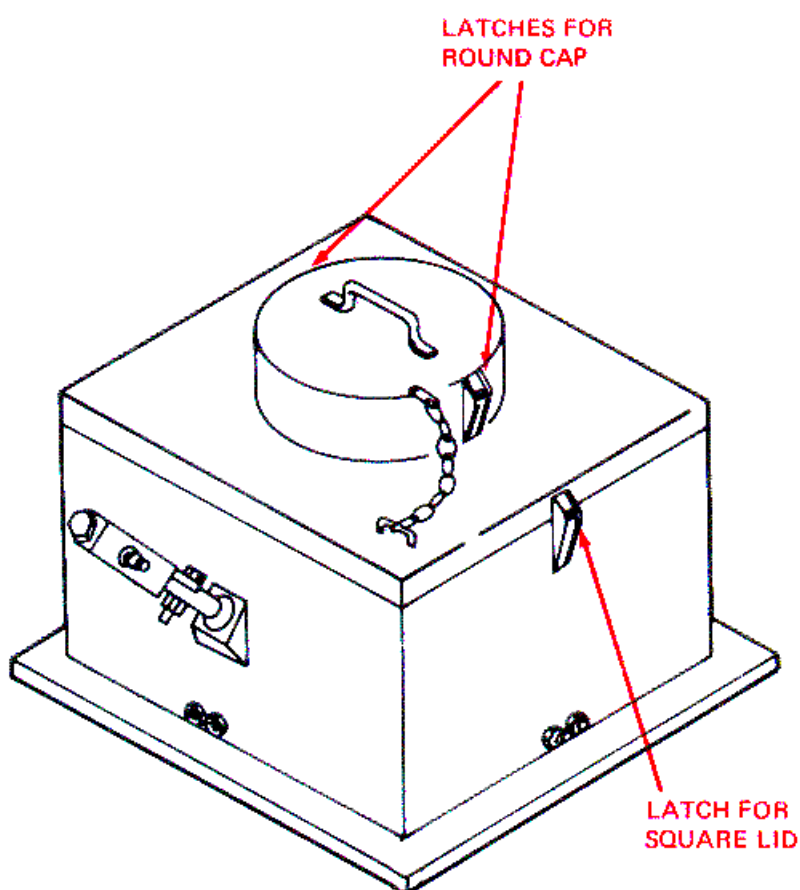

Figure 2-20. Quick-Loading Hopper.
- c. To load cement from an "elephant trunk" loader, remove the round cap and fit trunk into the opening (fig. 2-20). Fill the bin.
- d. To load cement from a chute or auxiliary bin; remove the square hopper lid (fig. 2-20). Fill the bin.
- f. Close hopper lid or put round cap back on. Close the latches Check to be sure the covers fit securely (fig. 2-20).